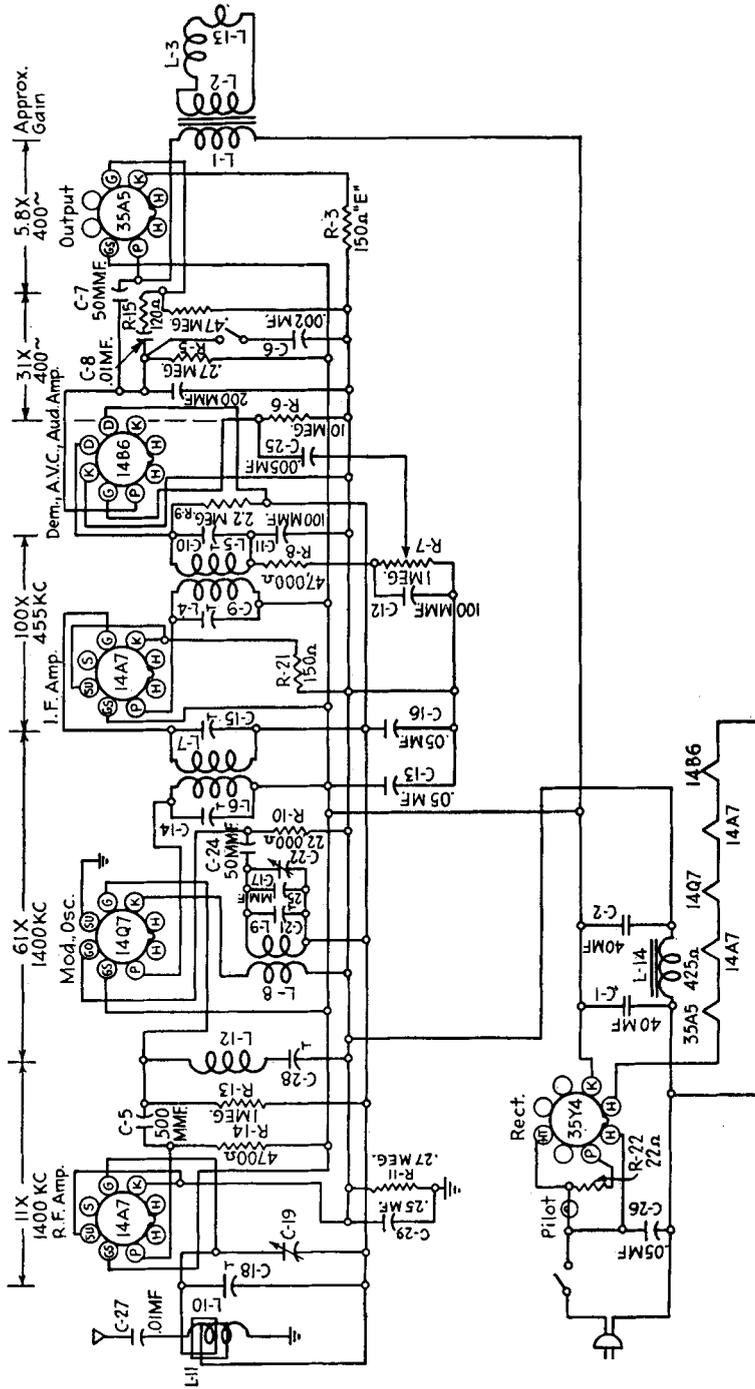

FIG. 7-3. The Stromberg-Carlson No. 1100 AC/DC receiver.
**Using the signal substitution method of servicing.** An example of how to use the signal substitution method in localizing a defect will make clear its value. Refer to the receiver whose schematic is shown in Fig. 7-3. We assume a defect and try to localize it. Suppose IF trimmer condenser *C-14* is shorted. The receiver is brought in with the complaint that it does not work.
Another method of indicating stage gain is shown in Fig. 7-3. Here, stage gain is indicated between specified points. Beneath the stage-gain value is indicated the frequency to which the signal generator must be set in making the check.